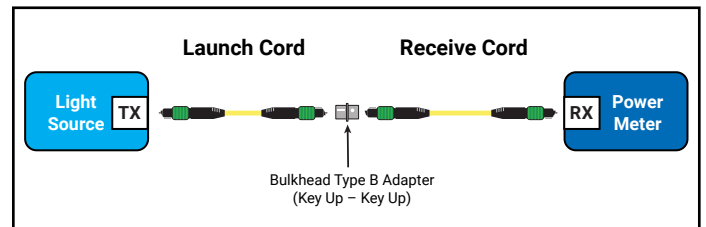

Figure 10d: Verify receive cord performance
7. Connect the launch cord and receive cord between the light source and the power meter (see Figure 10d).
9. Do NOT disturb the set up shown in Figure 10d. Reset the reference to 0.0 dB.